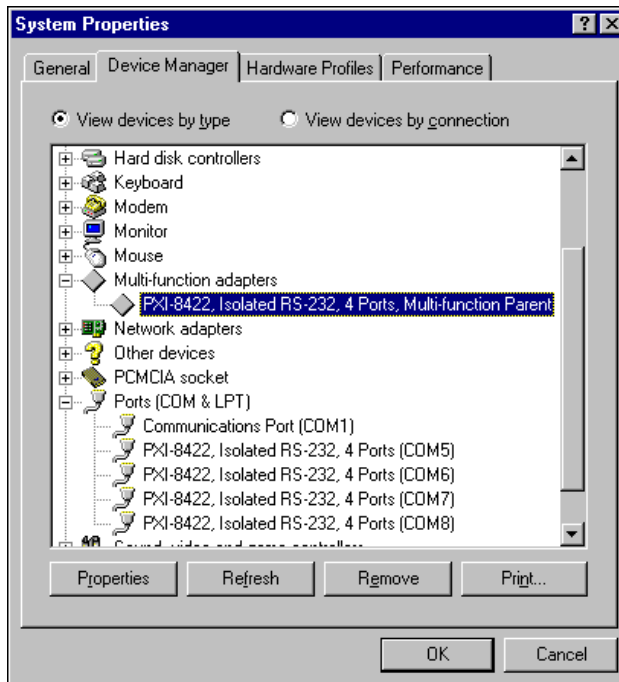

Figure C-5. Selecting an Interface to Uninstall
4. From the **Multi-function adapters** list, select the National Instruments interface that you want to uninstall, as shown in Figure C-5.